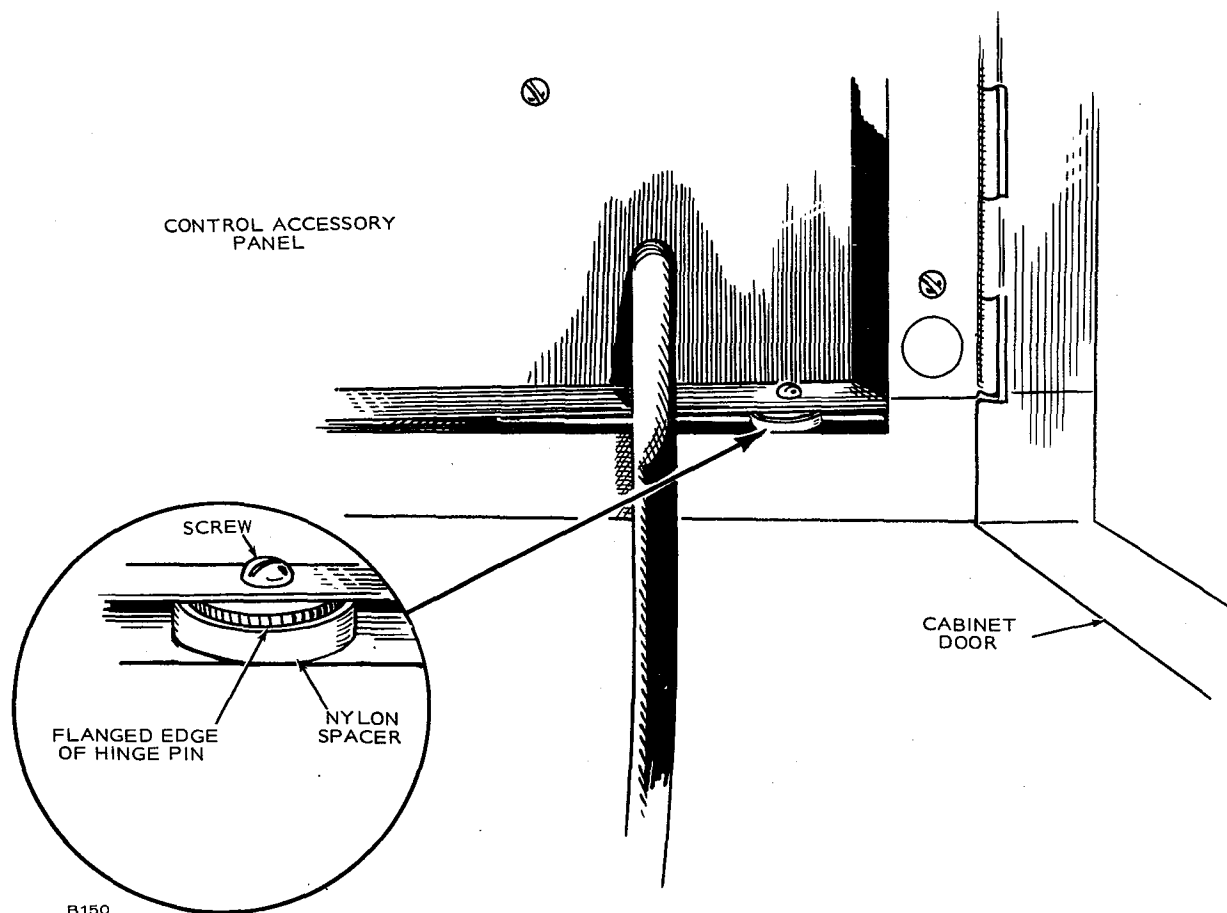

FIGURE 4. BOTTOM HINGE PIN FOR CONTROL ACCESSORY PANEL
7. Hold the flange edge of the control accessory panel's bottom hinge pin with a needle-nose pliers (just above nylon spacer) and remove screw from pin with a screwdriver. The pliers prevent the pin from turning when loosening the screw (Figure 4).